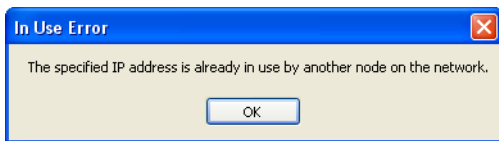

Figure 24: IP Address Already in Use Error
- Click on the button. If the entered IP Address is in use by another device, an error window appears (see Figure 24). Click the button to clear the window, verify the IP Address is correct and there is no conflict with any existing devices/IP Addresses on the network, and start again from Step 2 on page 14.